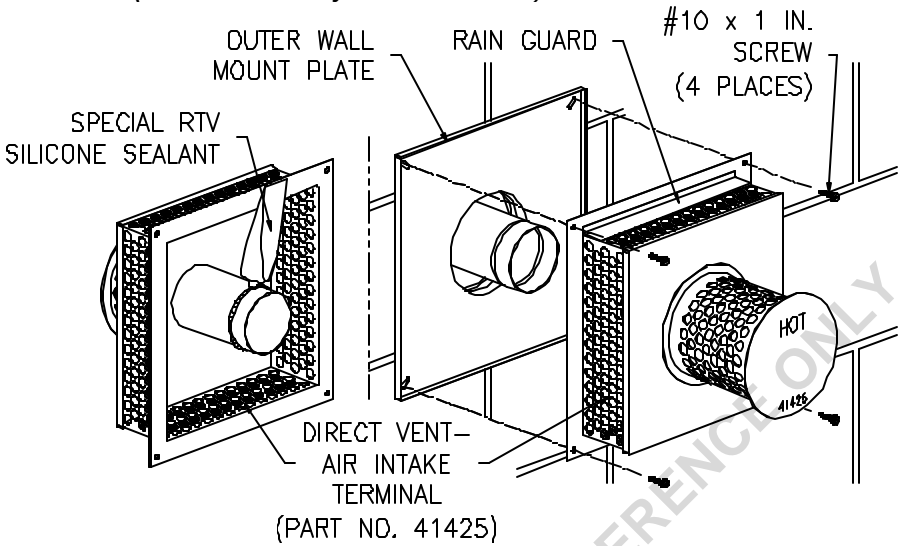

Figure 13
10. Using the supplied special RTV silicone sealant, apply a bead one (1) inch (2.5 cm) from the end of the three (3) inch (7.6 cm) diameter tube that is part of the vent-air intake terminal. Slide the direct vent-air intake terminal into the three (3) inch (7.6 cm) diameter telescopic tube that extends through the wall and position it so it is flush with the outer wall mount plate. Make sure that the rain guard and the word "HOT" on the end of the direct vent-air intake terminal are oriented properly. Secure the direct vent-air intake terminal to the outer wall mount plate and wall with four (4) #10 x 1 inch screws (supplied) (See Figure 13). Note: Certain construction of walls may require the use of different type of anchoring means than supplied. **DO NOT** modify the direct vent-air intake terminal or outer wall mount plate.